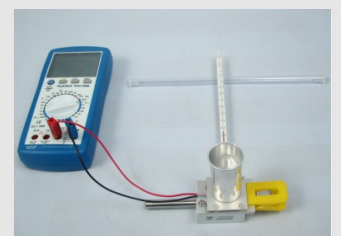

Figure 8
7. Place the cup on the Peltier element (Fig. 8).